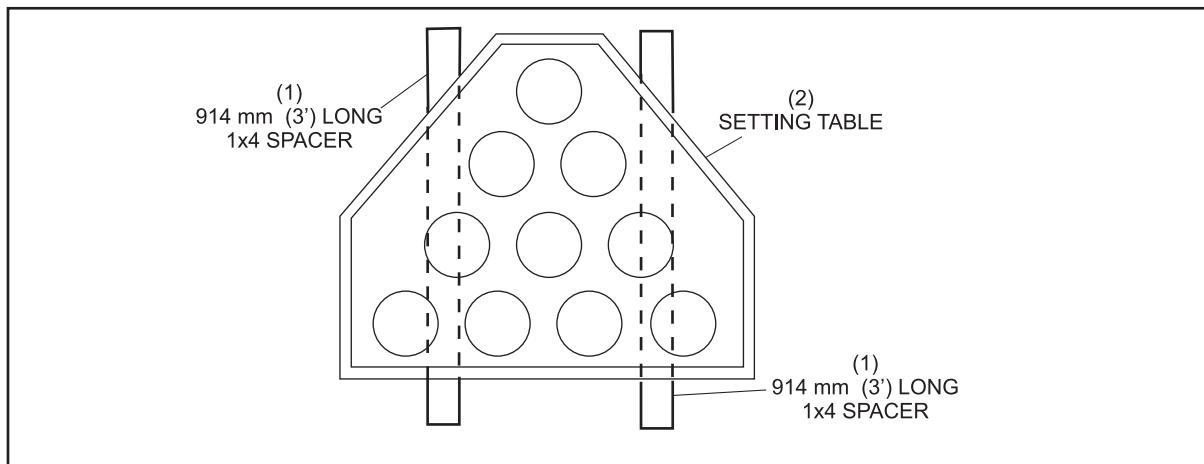

Figure 8-2. Placing Spacers
2. Place two 914 mm (3') long 1 x 4 spacers on the pin deck positioned so the deck will be supported front and back. Refer to *Figure 8-2*.